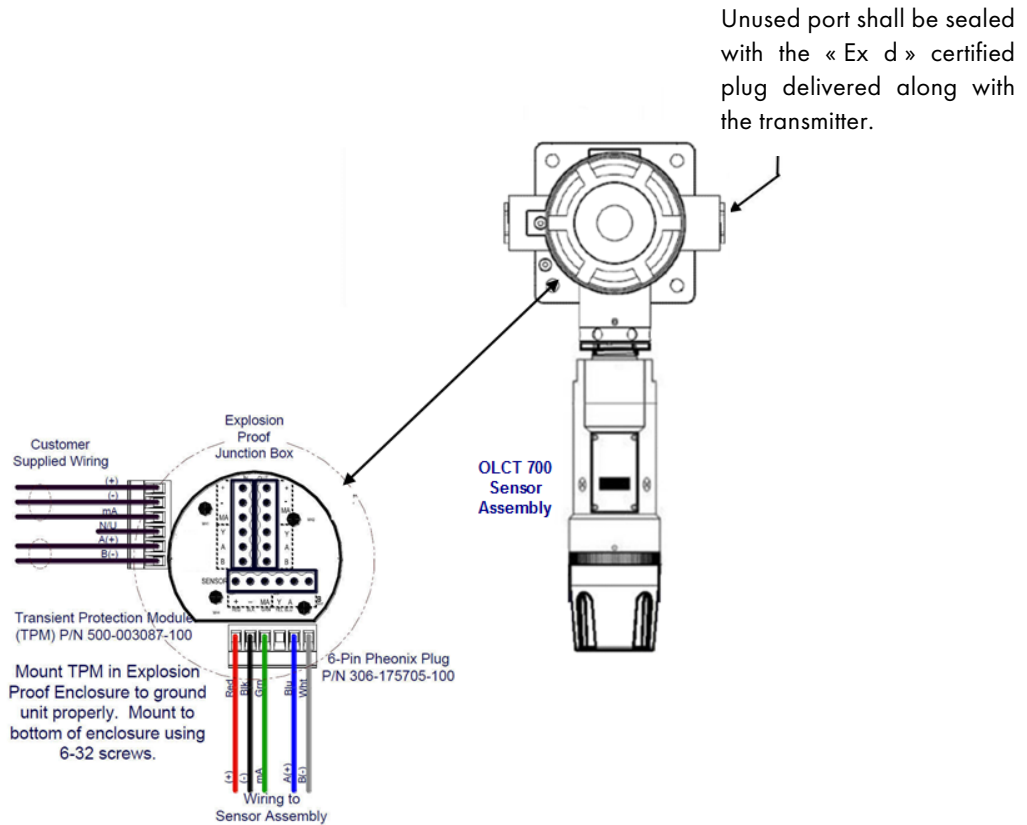
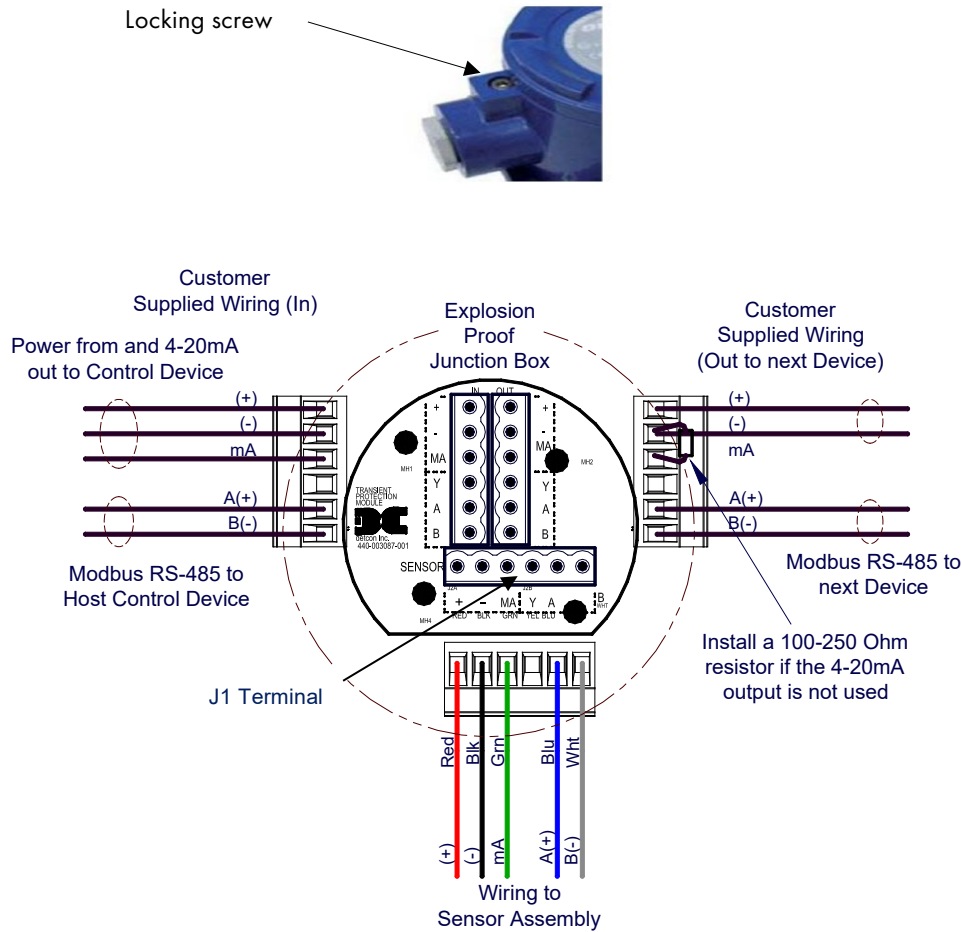

Figure 10: Typical Installation
Figure 11: Detector Wire Connections
Proper electrical installation of the gas detector is critical for conformance to Electrical Codes and to avoid damage due to water leakage. Refer to Figure 10 and Figure 11 for proper electrical installation.
a) Remove the junction box cover. Identify the terminal blocks for customer wire connections (see Figure 11).
b) Observing correct polarity, terminate the 3-conductor 4-20mA field wiring (+, -, mA) to the detector assembly wiring in accordance with the detail shown in Figure 11.